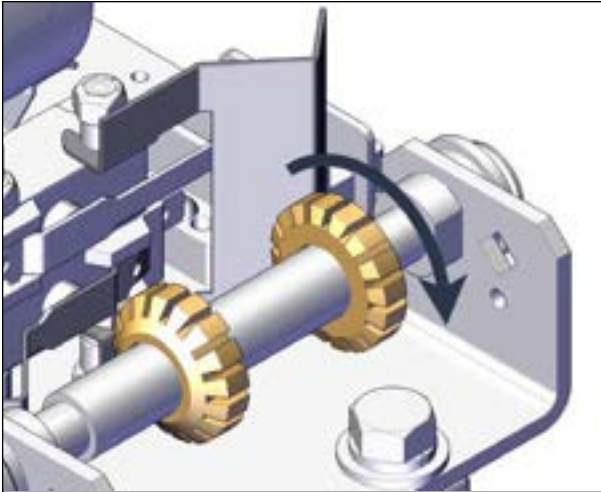

FIGURE 82: CAM WHEELS
4. To reduce the lift up limit, turn by hand the up- cam wheel counterclockwise looking from the cam plate mounting screw side as shown in Figure 82. It has around 4° between each cam wheel tooth and adding or removing a tooth resolves in adding or removing approximately $5/32$ in. (4 mm) on the cover lifting stroke.